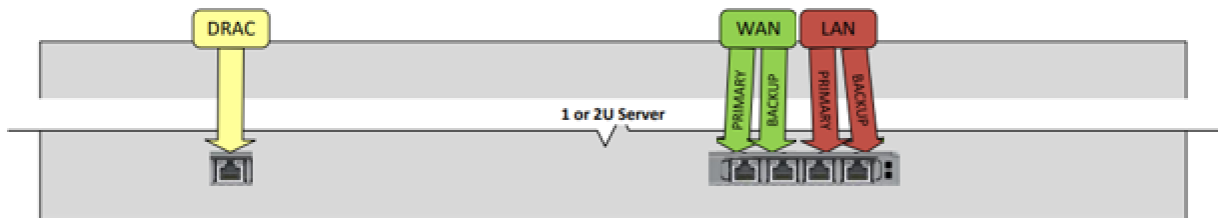

Figure 4 - Colored Coded Central Server Connection Guide
Figure 4 provides Central Server color-coded connection guidance.
- The WAN connection to the FSAS Server will be plugging into the Ethernet connector ports labeled WAN Primary (Green Tag on Server cover) (Figure 4) using customer supplied Network Cables.